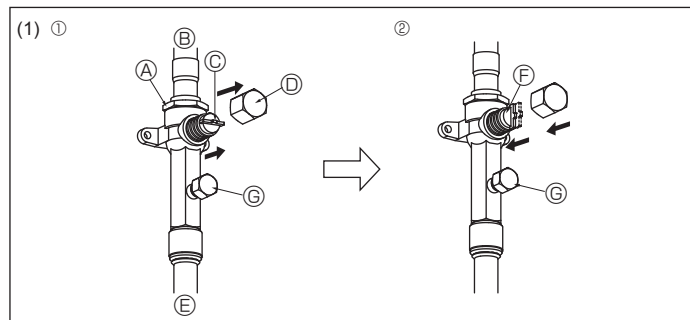

Fig. 4-11
- If the pressure decreases in steps (2) or (3), there is a gas leak. Look for the source of the gas leak.
- Gas side (Fig. 4-11)